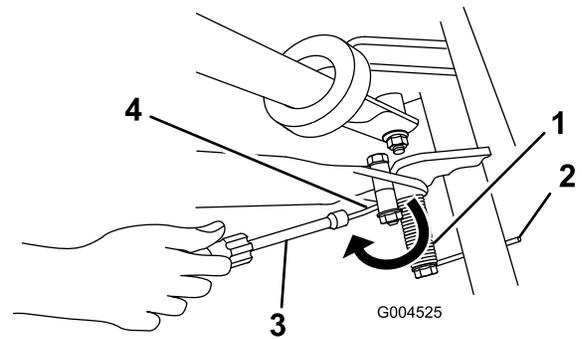

Figure 10
6. Place a nut runner over the end of the spring pointing towards the rear and move the end of the spring over and under the kickstand spacer (Figure 10).